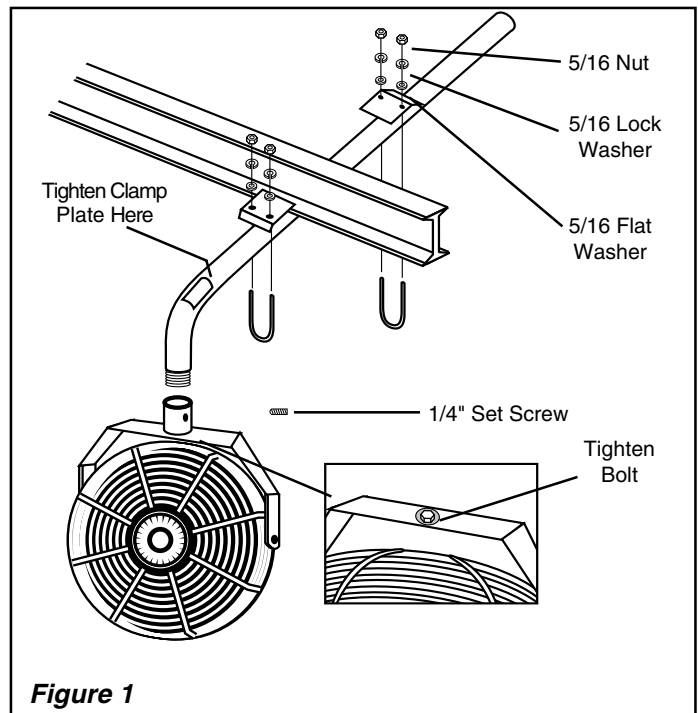

Figure 1
1. Locate the L-shaped pipe to the desired location on the I-Beam flange. Install the 5/16 x 2" U-Bolt over the pipe and through the clamping plate holes. The flat part of the clamping plate sits on the I-Beam flange and the end with the slight bend goes against the pipe. Install flat washers, lock washers and nuts. Finger tighten the nuts on the U-Bolt. (**Figure 1**)